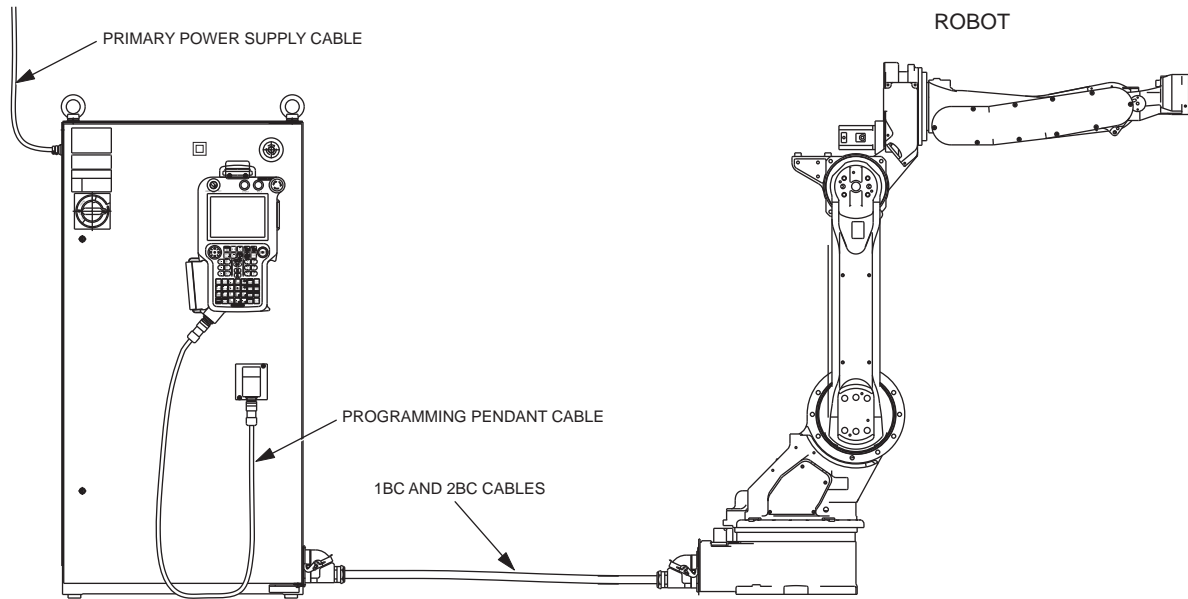

Figure 9 Connecting Robot to Controller
3. Carefully engaging connectors, connect one end of each cable (labeled 1BC and 2BC) to 1BC and 2BC connections on back of robot (see Figure 9). Connect other ends of 1BC and 2BC cables to the 1BC and 2BC connections on side of controller.